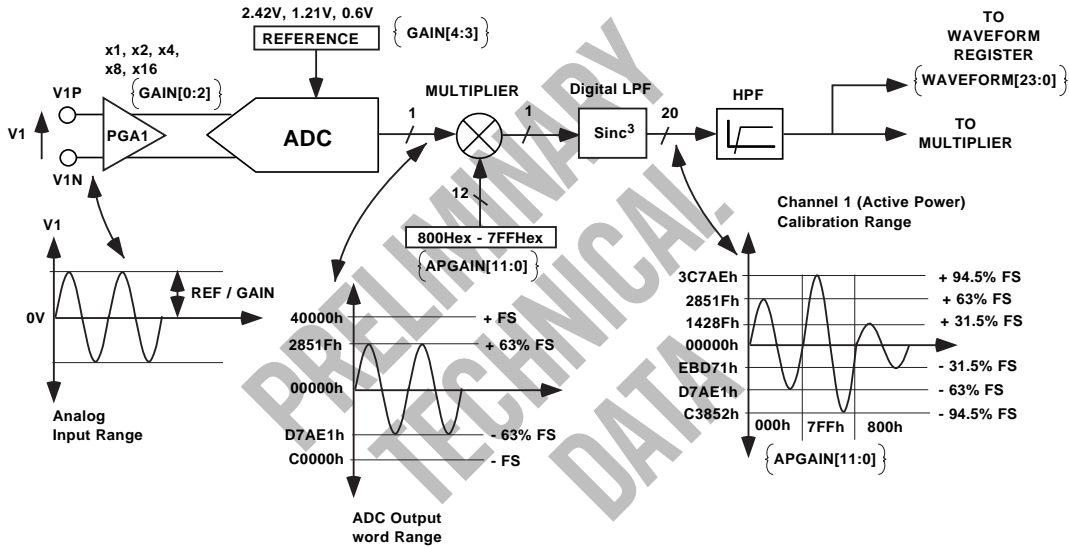

Figure 22 —ADC and signal processing in Channel 1
Figure 22 shows the ADC and signal processing chain for Channel 1. In waveform sampling mode the ADC outputs a signed 2's Complement 20 Bit data word at a maximum of 28kSPS (kilo Samples Per Second). The output of the ADC can be scaled by  $\pm 50\%$  to perform an overall power calibration or to calibrate the ADC output. While the ADC outputs a 20 bit 2's complement value the maximum full-scale positive value from the ADC is limited to 40000h (+262,144 Decimal). The maximum full-scale negative value is limited to C0000h (-262,144 Decimal). If the analog inputs are over-ranged, the ADC output code will clamp at these values. With the specified full scale analog input signal of 1V (or 0.5V or 0.25V – see *Analog*
*Inputs* section) the ADC will produce an output code which is approximately 63% of its full-scale value. This is illustrated in Figure 22. The diagram in Figure 22 shows a full-scale voltage signal being applied to the differential inputs V1P and V1N. The ADC output swings between D7AE1h (-165,151) and 2851Fh (+165,151). This is approximately 63% of the full-scale value 40000h (262,144). Over-ranging the analog inputs with more than 1V differential (0.5 or 0.25, depending on Channel 1 full scale selection) will cause the ADC outputs to increase towards its full scale value. However for specified operation the differential signal on the analog inputs should not exceed the recommended value.
For example when 7FFh is written to the Active Power Gain register the ADC output is scaled up by 50%. 7FFh = 2047 Dec,  $2047/2^{12} = 0.5$ . Similarly, 800h = -2047 Dec (signed 2's Complement) and ADC output is scaled by -50%. These two examples are illustrated graphically in Figure 22.